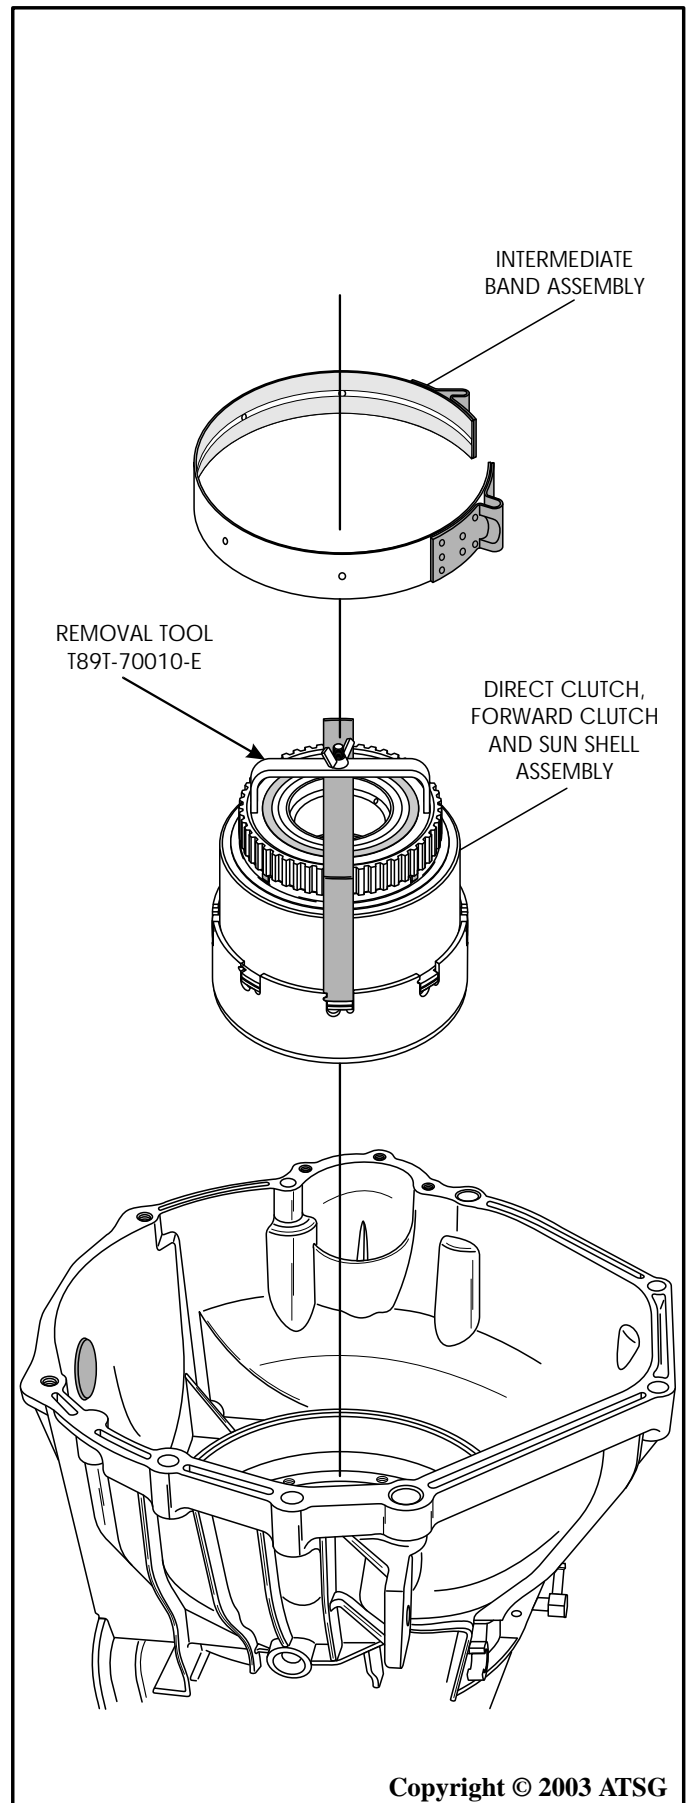

Figure 66
19. Remove the intermediate band assembly, as shown in Figure 66.
20. Install the removal tool and remove the direct clutch drum, forward clutch drum and the sun shell as an assembly, as shown in Figure 66.